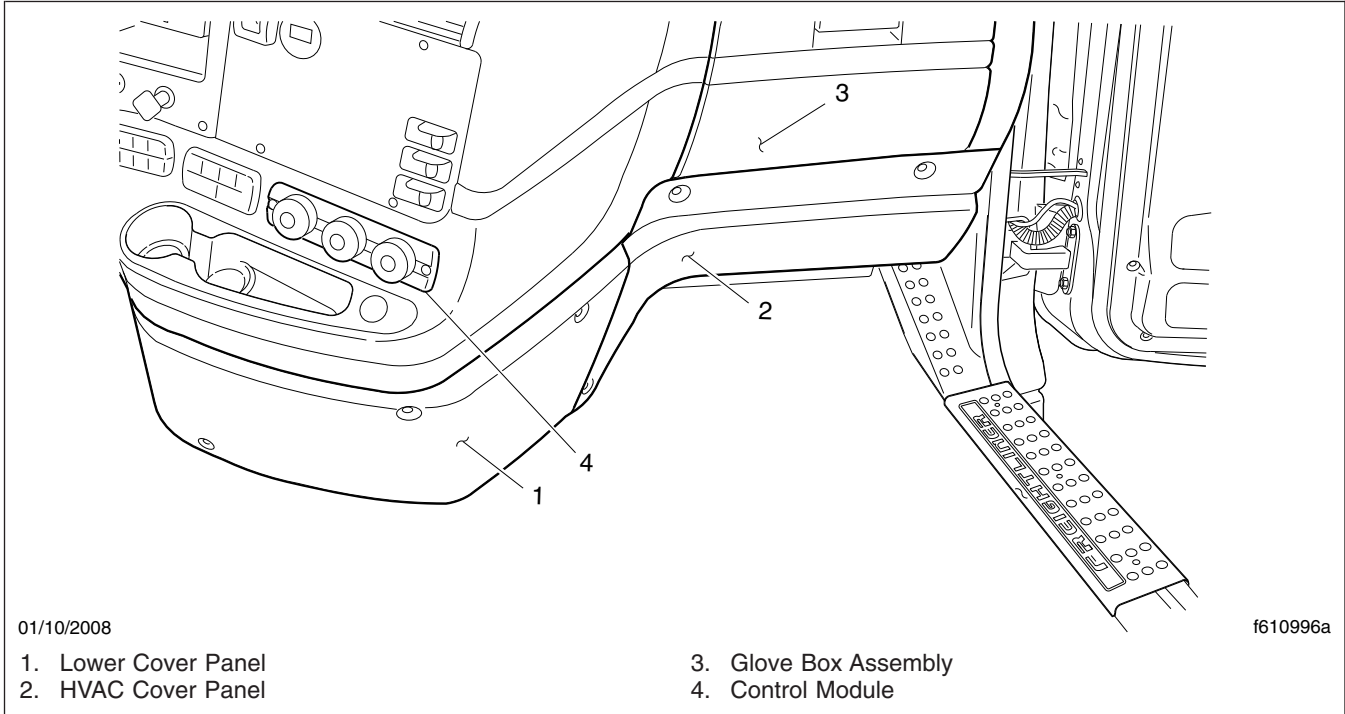
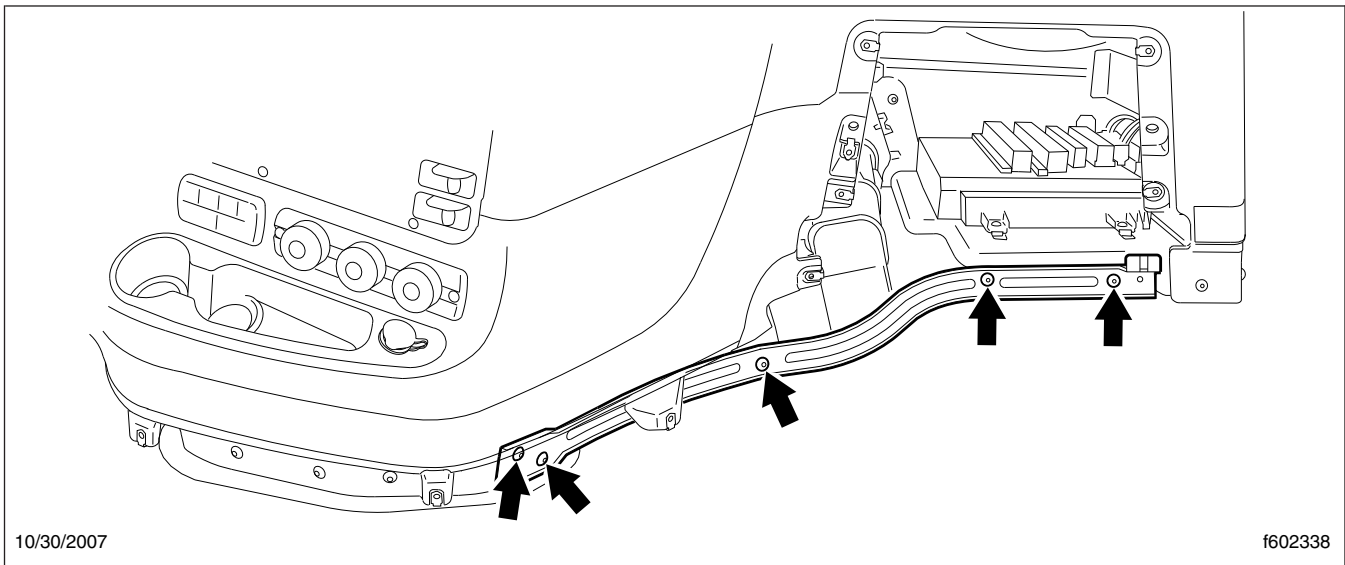

Fig. 1, Access Panels
Fig. 2, Glove Box Brace
5. Remove the dash access panels and supports listed below. See Fig. 1 and Fig. 2. See Section 60.06 in the *Cascadia Workshop Manual* for instructions.